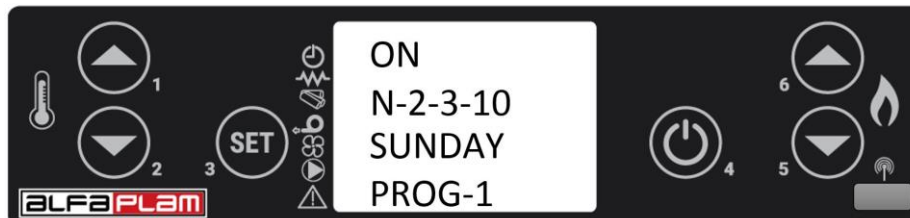

Figure 55
By pressing the button SET and the button 1 we activate (ON) or deactivate (OFF) the program 1 for the corresponding day in the week starting from Monday, up to Sunday as shown in figures 55 and 56. The transition from day to day is performed by pressing the button SET.